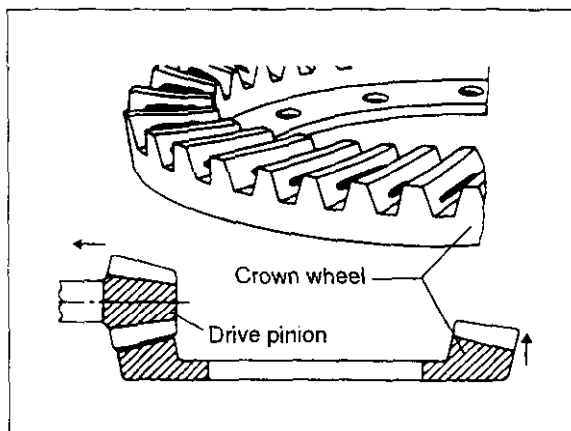

Fig. 2-372
- e. Adjusting contact condition at flank (Fig. 2-372). Increase shim thickness at the bearing cage to move the drive pinion away from the crown wheel.